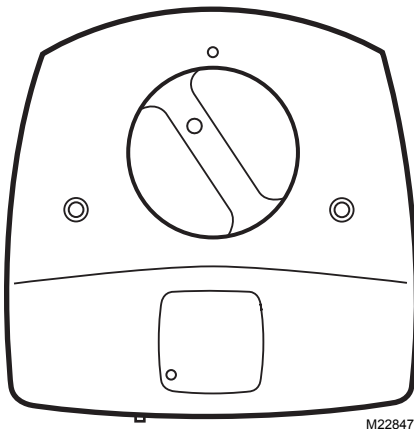
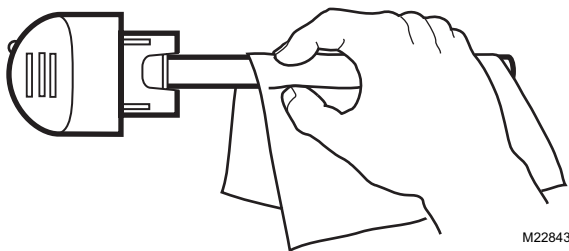

Fig. 5. Insert bulb into base unit.
Fig. 6. Use cloth to wipe fingerprints from glass.
11. Insert the bulb into the base unit with the lamp light indicator at the eleven o'clock position (left of the raised button on the unit cover). See Fig. 5. If you touch the lamp glass with your hands, use a cloth to wipe fingerprints from the glass. See Fig. 6.
4. Rotate the lamp handle counterclockwise and gently pull the lamp handle to remove the bulb. See Fig. 5.